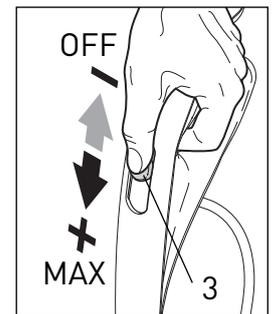

Figure 5
4. Slide the On/OFF switch (3) downward toward the MAX position - see figure 5.
## Operating the Power Head - Figures 5, 6, 7, 8 & 11
**C.** You may adjust the suction control with the suction control slider (3, figure 5) as you vacuum different surfaces or when using the accessory tools. For optimal cleaning and brushing, operate the machine at the maximum suction power setting and push the power head slowly over the carpet.
To change a **floor tool** or **power head**, switch off the power and unplug the vacuum. Press the tool release button (14) and pull the vacuum out of the swivel neck (20). Insert the vacuum into the new tool and push down gently until it snaps into place. Plug the vacuum in and switch the power on. You may adjust the suction control with the suction control slider (3, figure 5) as you vacuum while using the power head or when using the accessory or floor tools.